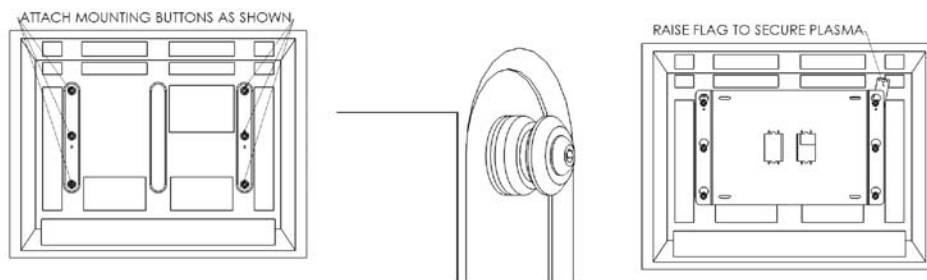

Figure 2
2. Place 1 Nylon spacer under each mounting button, place on mounting holes and attach using the M5-.8 x 25 mm BHCS (see Figure 2).